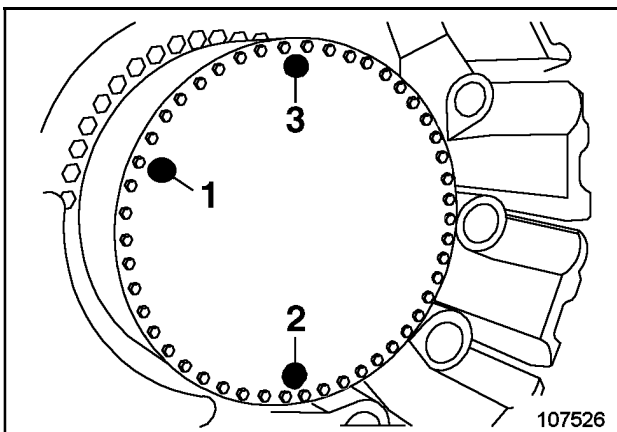

Fig. 3-89:
- Move the hydraulic shovel into such a position that the screw plugs (1, 2 and 3, Fig. 3-89:) are in the displayed position.